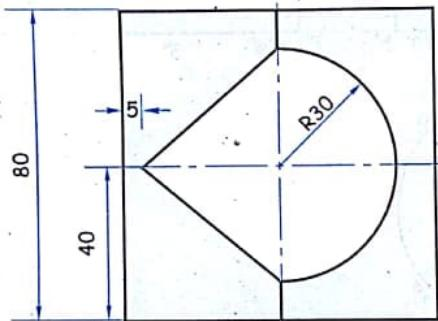

FIG. 12.66
3. Figure 12.66 shows the front view of square prism of 50 mm side of base and 80 mm in height. A through slot is cut into it as shown. Draw the lateral surface development of the prism showing slot in it. Edges of base of square prism are equally inclined with V.P.